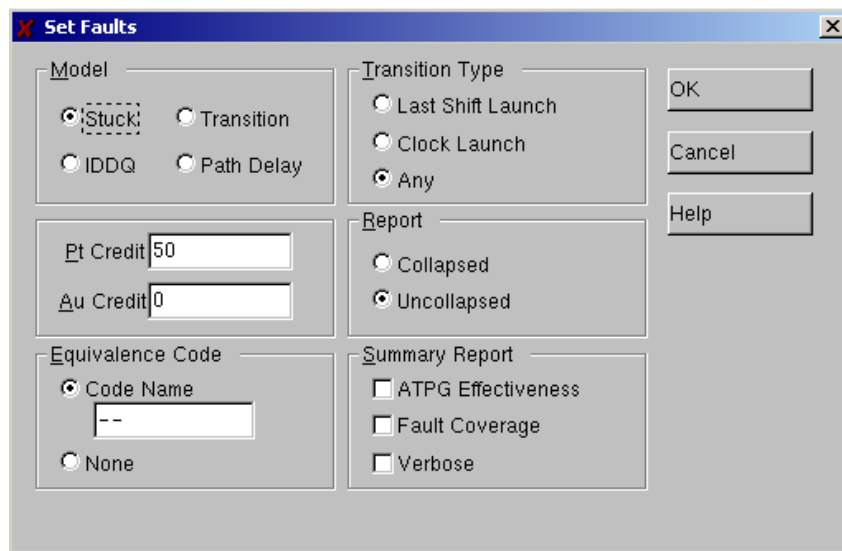

Figure 3: Set Faults window
- Fault model: In the **Faults tab** select **Set Fault Options**, this window (see Figure 3) allows you to select the fault model. Select the **Stuck** model as well as the **Uncollapsed** option in **Report**.